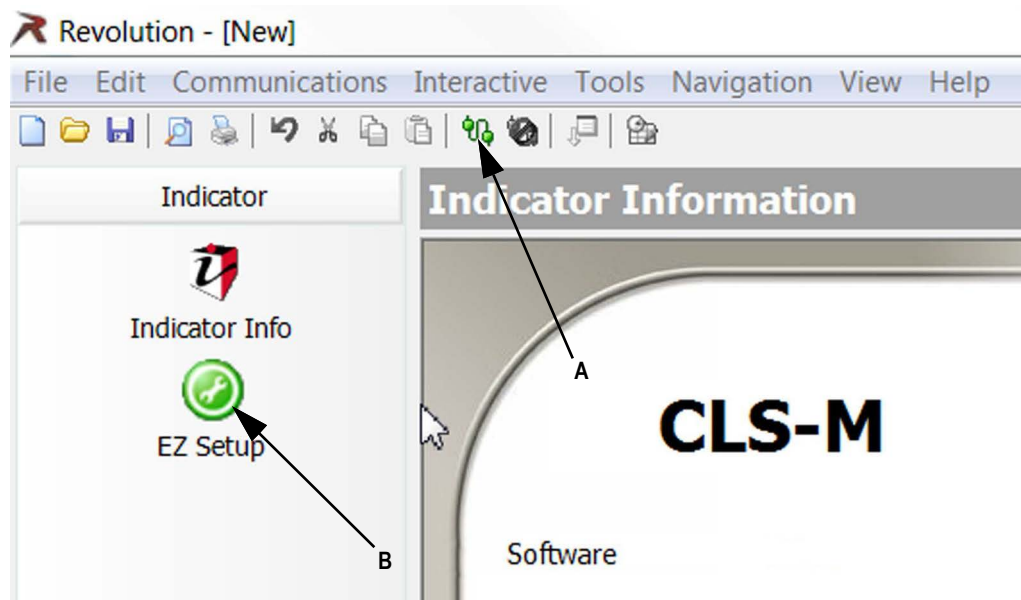
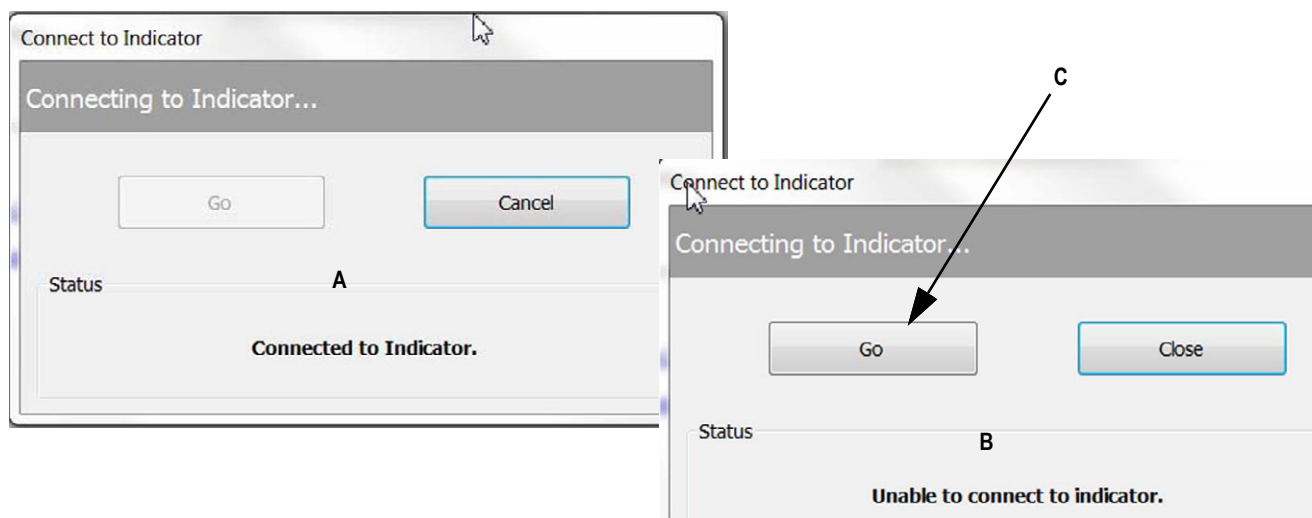

Figure 4-48. Connect Revolution to Power/Communication Box
Figure 4-49. Connection Success/Failure
10. Select the connect icon from toolbar (Figure 4-48 A). A pop-up box comes up momentarily (Figure 4-49 A) to indicate the computer is now indicated to the box.
11. If it comes up as **Unable to Connect to Indicator** (Figure 4-49 on page 42 B) verify the Comm Port is correct and that the power/communication box is turned on. Then select **GO** (Figure 4-49 on page 42 C) to connect.